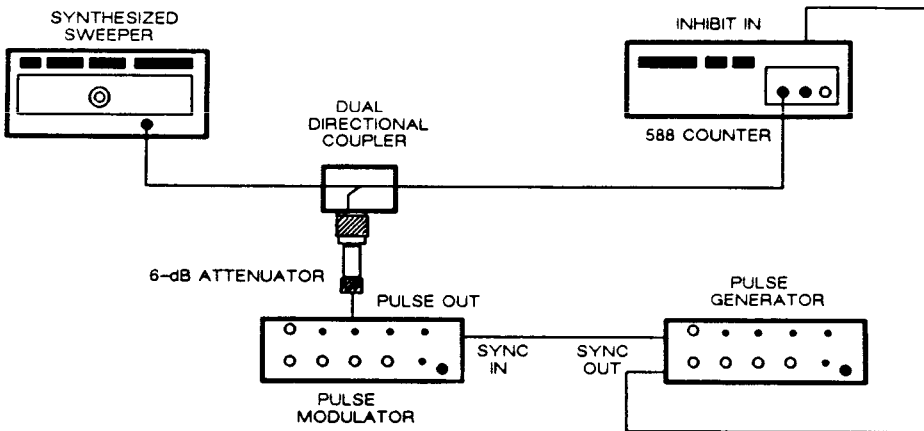

Figure 4-26. Band 1 Maximum Video Test Setup
3. Connect equipment as shown in Figure 4-26.